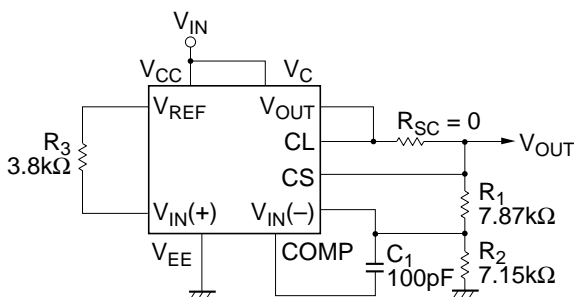

Figure 2 High Voltage (7 to 37 V) Regulator
**High Voltage (7 to 37 V) Regulator:** Figure 2 shows the construction of a regulator whose output voltage is higher than the reference voltage,  $V_{REF}$ .  $V_{REF}$  is added to the non-inverted input of the error amplifier via a resistor,  $R_3$ . The feedback voltage is produced by dividing the output voltage with resistors  $R_1$  and  $R_2$ .